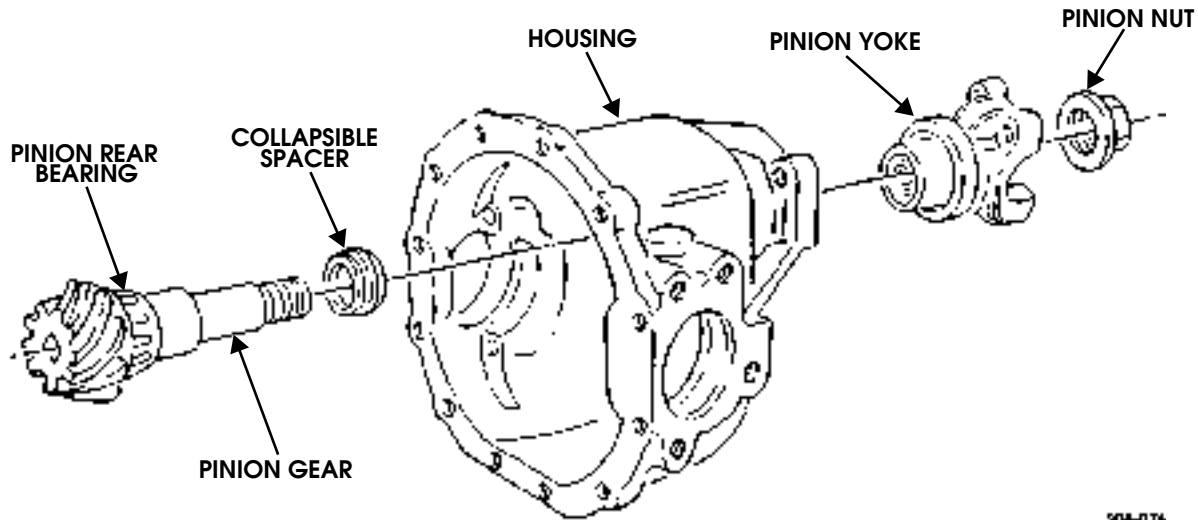

Figure 9-91: Rear Pinion Bearing Location
25. Rotate housing 90 degrees. Lubricate rear pinion bearing with gear oil (Figure 9-91).